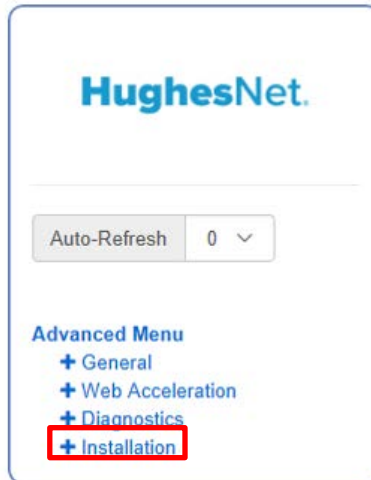

Figure 14: Advanced Pages Installation link
4. Click the Install link to begin the installation. The Input Params screen appears as shown in Figure 14.